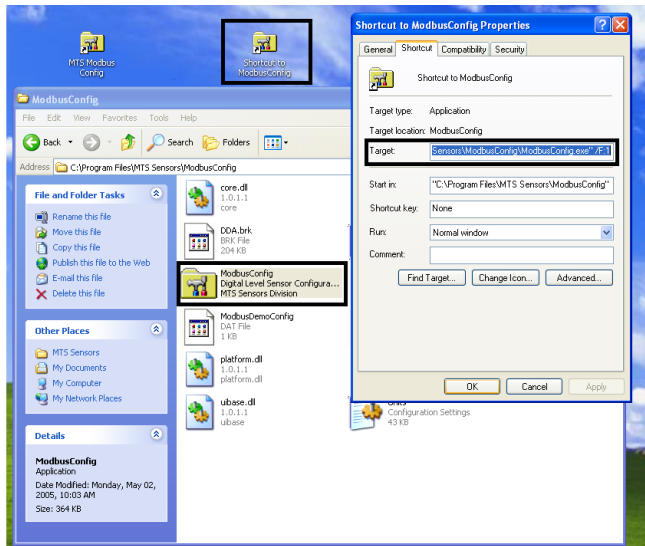

Figure 1. Shortcut creation and Target entry
3. Right click the Configuration folder shortcut icon, select “*Properties*”. The shortcut properties dialog box opens (*Figure 1*).